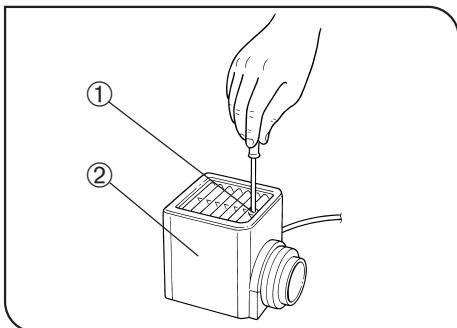

Fig. 12
(Fig. 12 to 14)
5. Fit the lamp housing ② from above and tighten the clamping screw ① while pushing down the screw by force. (Fig.12)